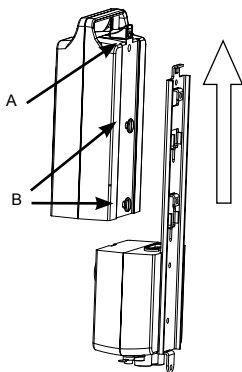

Fig. 1
2.1.3 Lightly lift a cover of battery box so that can be separated from a support and control box (Fig. 1).